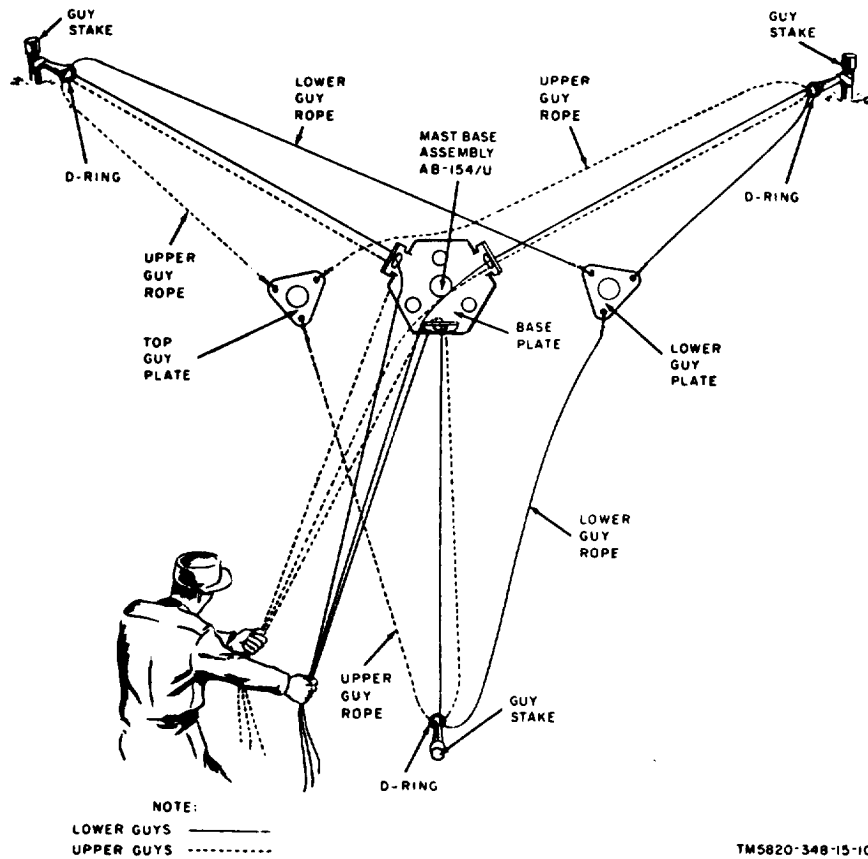

Figure 2-7. Baseplate, guy plate, and guy rope layout.
a. Lay out the baseplate, swivel stake, and guy stakes as instructed in paragraph 2-4 and as shown in figure 2-7. Remove all obstructions from the area within the limits of the guy stakes.
c. Select three ropes for the upper guy ropes and three ropes for the lower guy ropes. Thread the upper and lower guy ropes through the baseplate guy rope cleats as illustrated in figure 2-7.